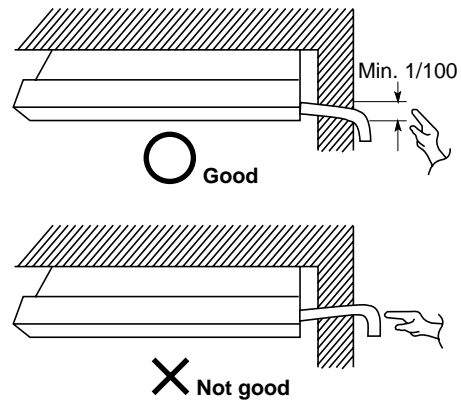

Fig. 3-70
- Connect the drain piping so that it slopes downward from the unit to the outside. (Fig. 3-70)